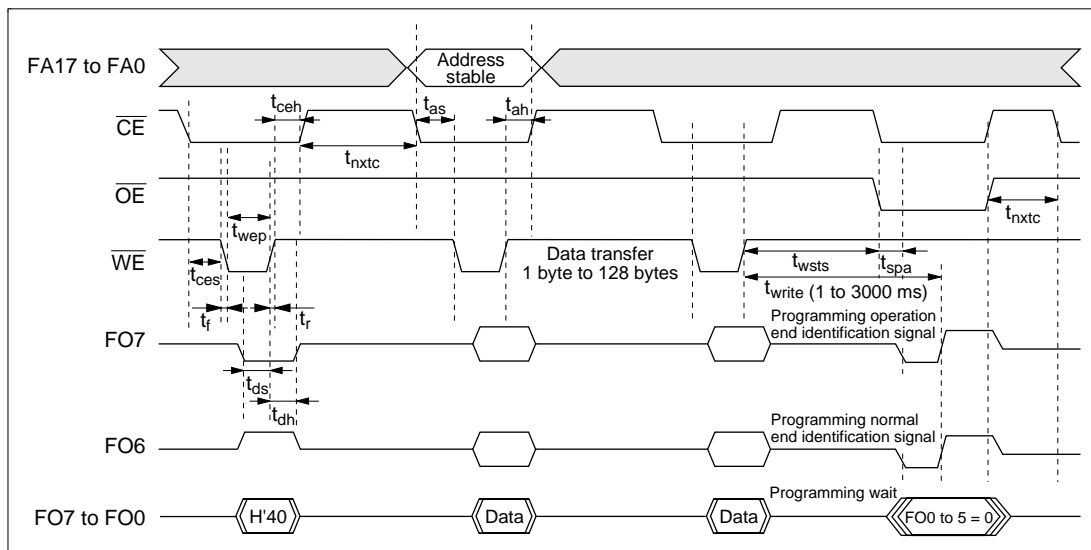

Figure 19.20 Auto-Program Mode Timing Waveforms
- Memory address transfer is performed in the second cycle (figure 19.20). Do not perform transfer after the second cycle.